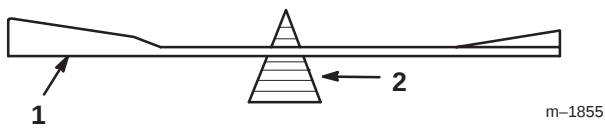

Figure 51
2. Check the balance of the blade by putting it on a blade balancer (Fig. 51). If the blade stays in a horizontal position, the blade is balanced and can be used. If the blade is not balanced, file some metal off the end of the sail area only (Fig. 49). Repeat this procedure until the blade is balanced.